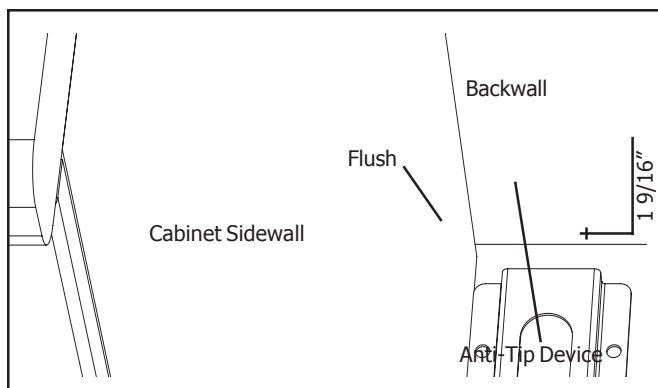

Figure 3
3. Measure to locate bracket position as shown in Figure 3.